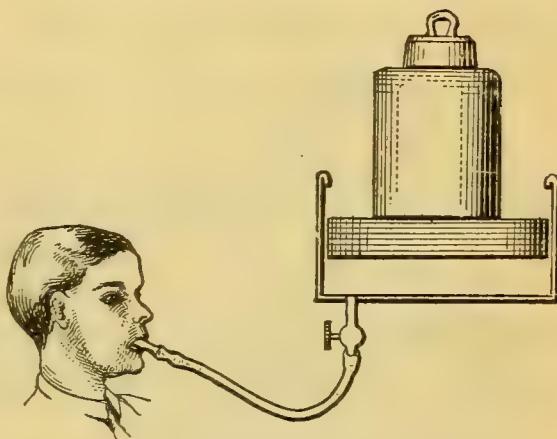

FIGURE 66.
5. Explain the weight lifter (Figure 66). Compare the *pressure* exerted at the mouth with that against the piston. Compare the *total force* on the air in the tube with that at the piston.
14. In Figure 66, the area of the piston is 30 in^2 . The boy exerts a pressure of 12 oz/in^2 . How heavy a weight is lifted?